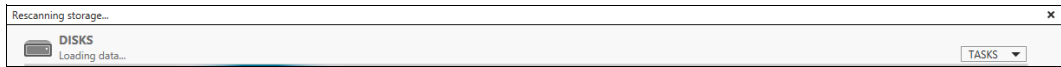

Figure 5-30 Waiting for Windows to rescan storage
- A bar displays at the top of the pane to show that Windows is attempting to scan for devices, as shown in Figure 5-30. Wait for this to complete.